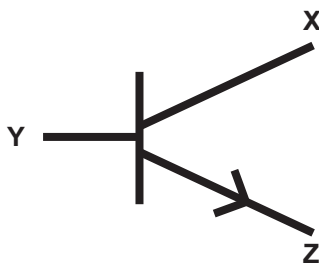

Fig. 4
(c) (i) Name the electronic component represented by the symbol in Fig. 4.
- (i) Complete the circuit to enable a buzzer to operate when required. Your solution should include the symbol shown in Fig. 4, a buzzer symbol, a diode symbol and the one additional component symbol needed. [6]